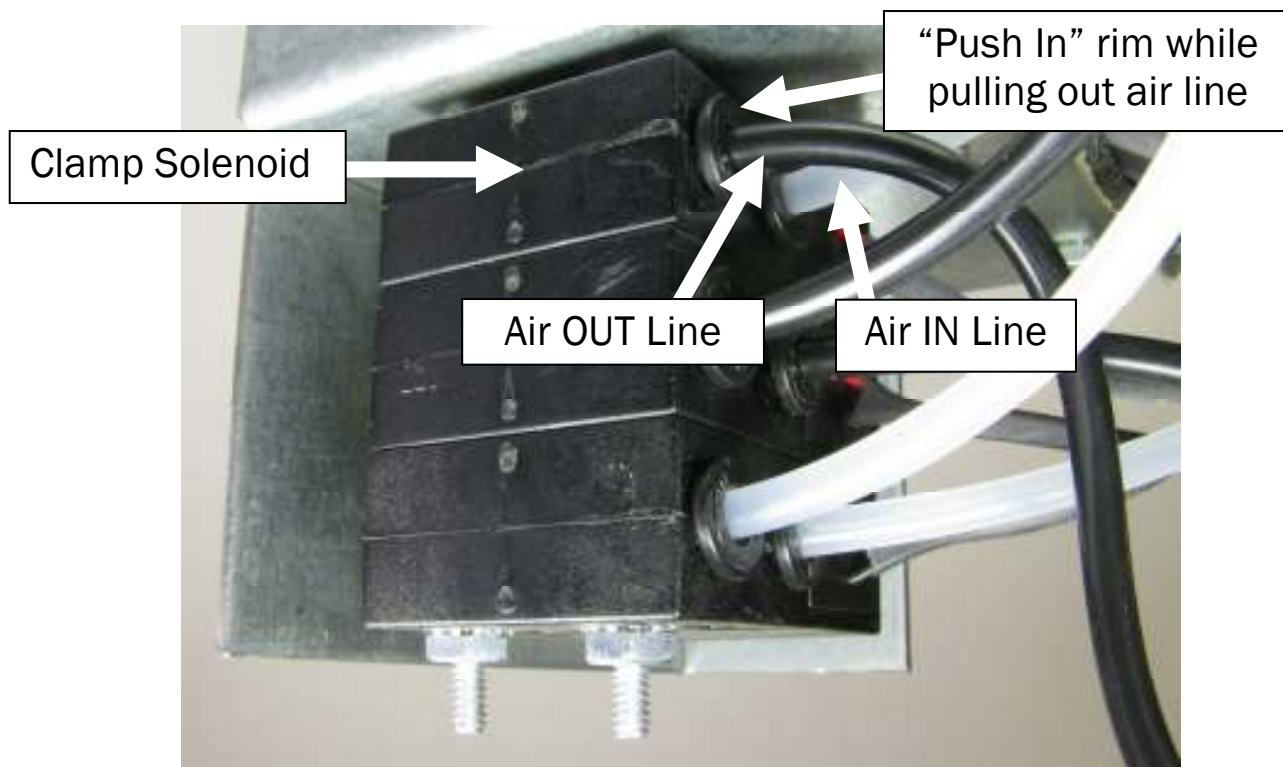

Figure 2
1. **Disconnect power and air from the machine.** Remove both air lines from the Clamp Solenoid. **See fig. 2.**